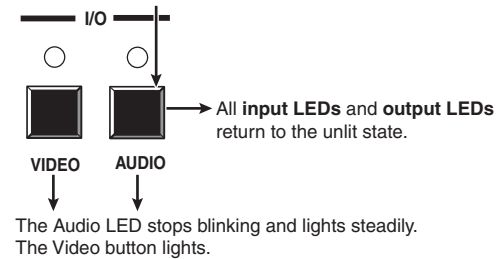

Figure 3-61 — Deselect Audio mode
5. Press and release the Audio button (figure 3-61).